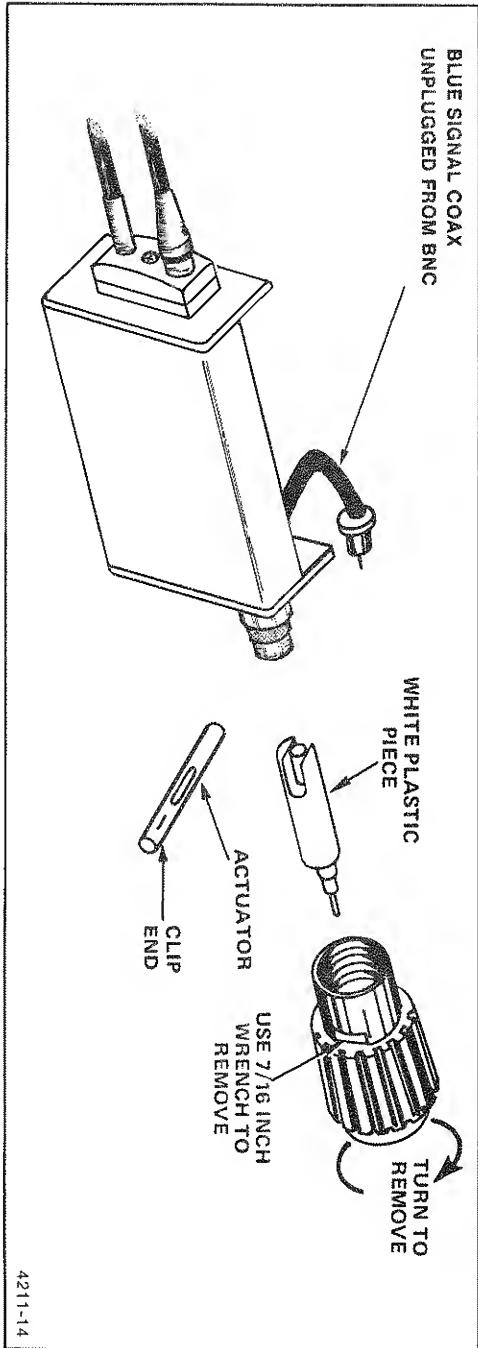

Figure 6-5. INT-EXT switch removal.
3. Using a 7/16-inch open-end wrench, loosen the BNC connector shell and carefully remove it (see Figure 6-5).
4. Grasp the white plastic piece just exposed and pull to remove (see Figure 6-5).
5. Grasp the INT-EXT switch actuator and pull to remove (see Figure 6-5). Note orientation of the clip end.